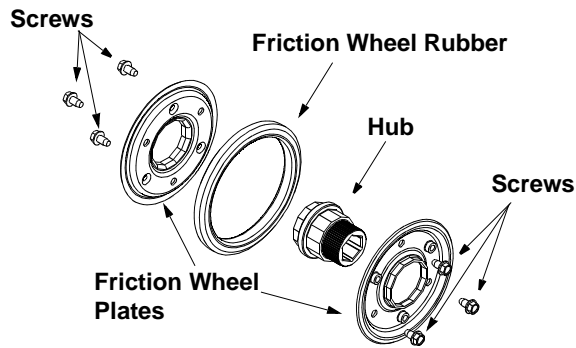

Figure 30
- Remove the six screws from the friction wheel assembly (three from each side). See Figure 30.
- Reassemble new friction wheel rubber to the friction wheel assembly, tightening the six screws in rotation and with equal force. See Figure 30.